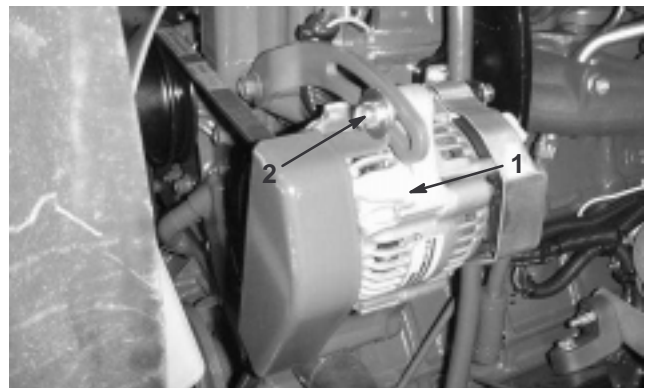

Figure 35
Check the condition and tension of the belts (Fig. 35) after every 100 operating hours.
2. If the deflection is not 3/8 in. (10 mm), loosen the alternator mounting bolts (Fig. 35). Increase or decrease the alternator belt tension and tighten the bolts. Check the deflection of the belt again to ensure that the tension is correct.